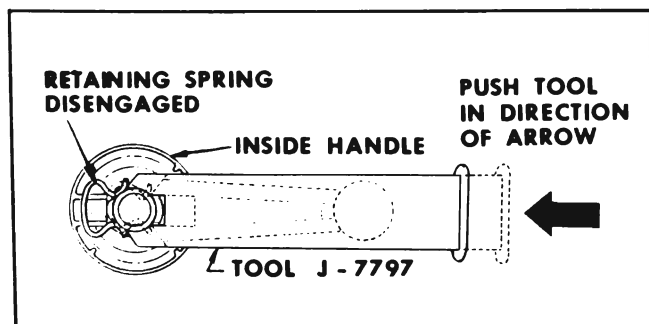

Figure 13-27—Removing Inside Handle Retaining Spring
2. Push handle retaining spring out of engagement and remove handle and bearing plate from door. See Figure 13-27.